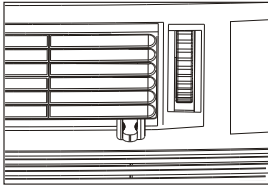

Figure 1 (VENT CLOSED)
1. Recirculate inside air - Vent Closed (See Fig. 1)